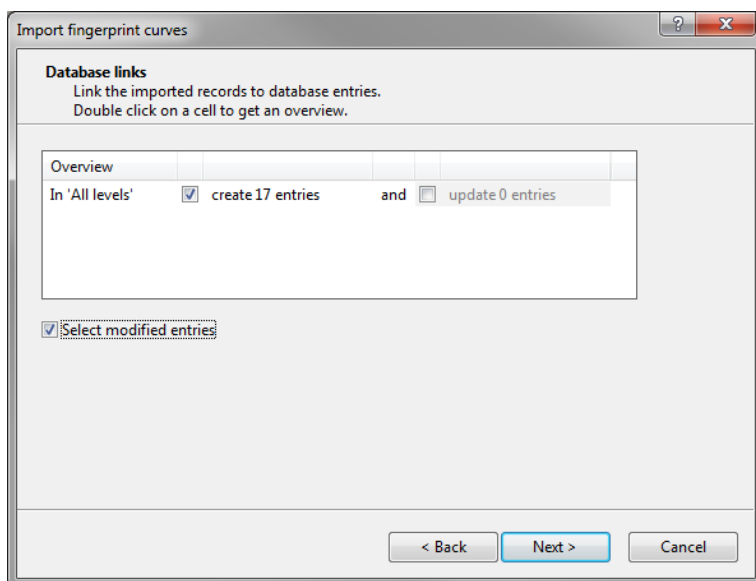

Figure 2.8: Database links.
4.19 Press **<Next>** to confirm the creation of 17 new entries (see Figure 2.8).